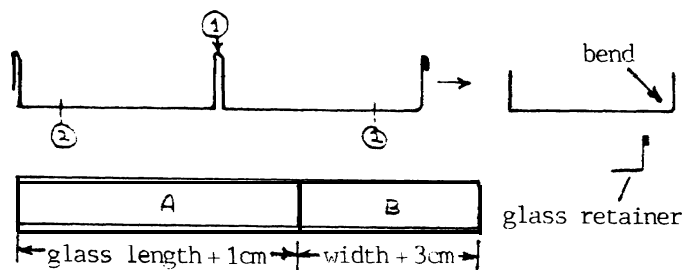

fig 3(a). cutting of cliplok sheet
cut the section in half at 1 (fig. 3(a)) and then each piece is cut again at 2. Cut to length as shown in 3 (a) and bend the side piece over a piece of wood as shown in 3 (b). Cut the ends of the two shortest side pieces (B) to form 1cm wide tabs and bend over square. Take the two longest sides and drill two $\frac{1}{4}$ " holes for the mounting bolts, and silver braze in the four bolts (3 (c)) Push the end of the rubber tube over the $\frac{3}{4}$ " pipe and measure the outside diameter, Draw two holes of this diameter on side A for the end tubes to mount in so that the collector surface is about 1.5cm below the glass,